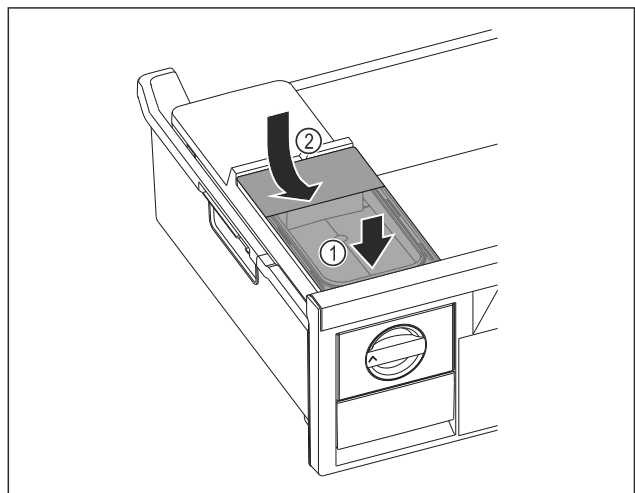

Fig. 79
- Position the water tank at the front. Fig. 79 (1)
- Lower the water tank at the rear. Fig. 79 (2)